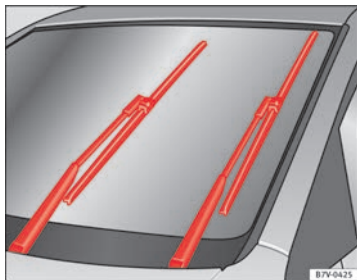

Fig. 137 Windscreen wipers in service position
- Turn ignition on and off and then (before approx. 9 sec.) move the windscreen wiper lever to the intermittent wipe position. The windscreen wipers will move to the service position ⇒ fig. 137.